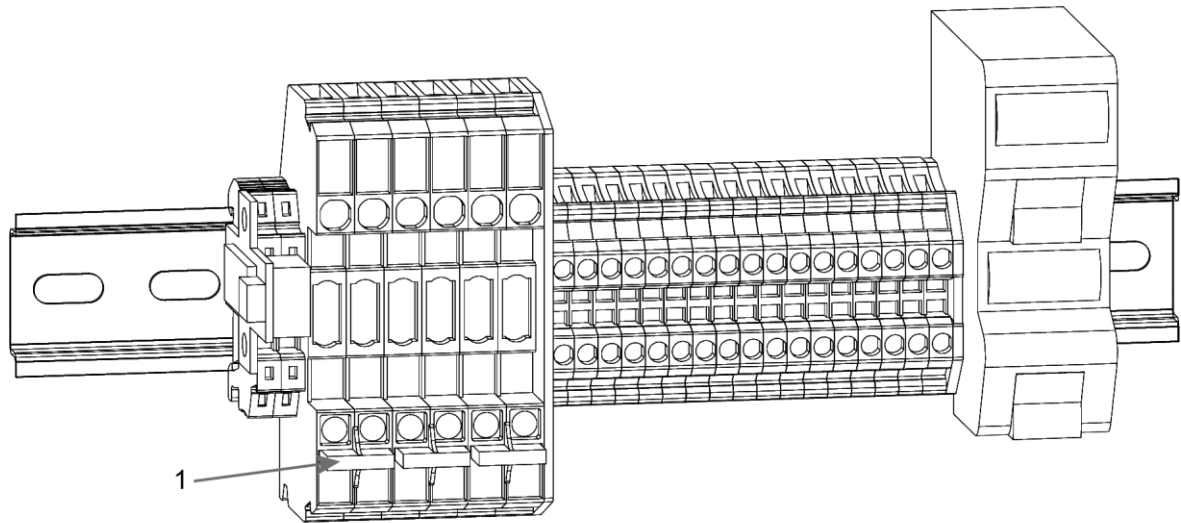

Figure 9 X11 and X12 Terminal block, CT shortened in this figure. As well as Multi-Master interface X22 and X23
Current transformers are connected to terminal block X12:1 – X12:6 in the bottom of the cabinet (see Figure 8). It is possible to short circuit the CT circuit with the switching jumper (1) (see Figure 9) by unscrewing the jumper and pulling them down. Observe that the CT circuit is shorted by default.